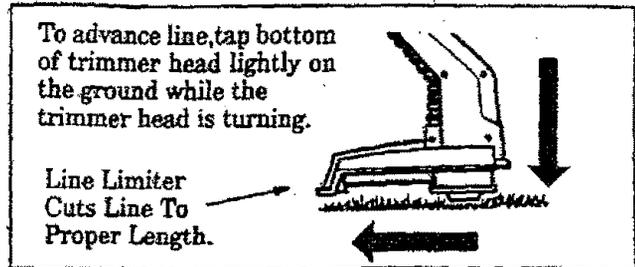

Figure 7
2. Tap the trimmer head lightly on the ground one time. Approximately 1 1/2 to 3 inches of line will be advanced after each tap. Figure 7.